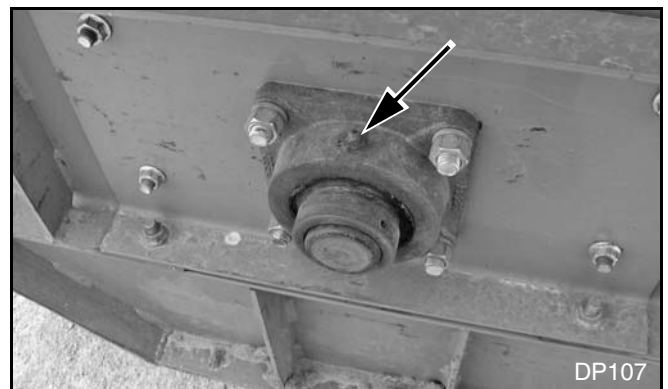

Figure 23. Rotor End Bearing Lubrication Point
2. Lubricate rotor end bearings. See Figure 23.